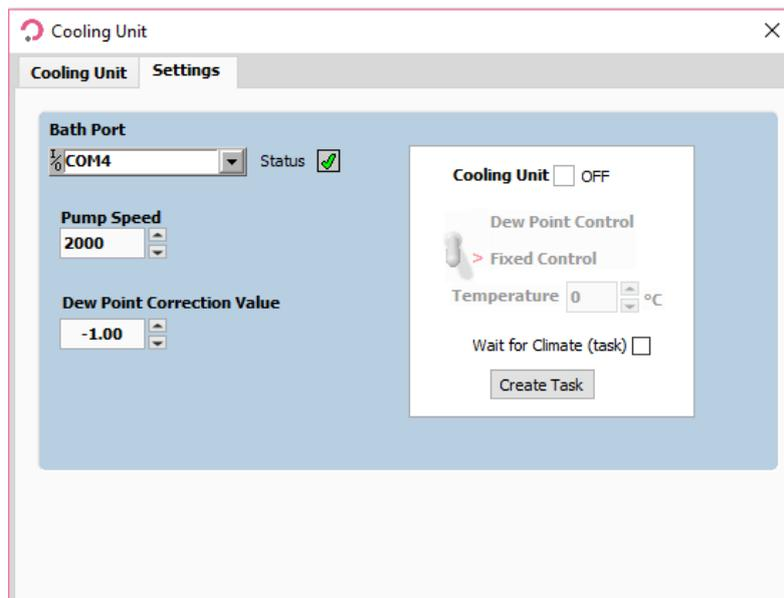

Figure 4: Dew Point Correction Value
Note. The runs already contain specific tasks controlling humidity and temperature for each run, but you should verify that the dew point temperature (DP) is above the temperature in the enclosure (BT) to avoid evaporation ($BT < DP$). We recommend setting -1 °C dew point correction (see Figure 4).
Please also make sure that the Dew Point Correction Value (Cooling Unit Control >> Popup window >> Settings tab) is set to -1 (Figure 4).